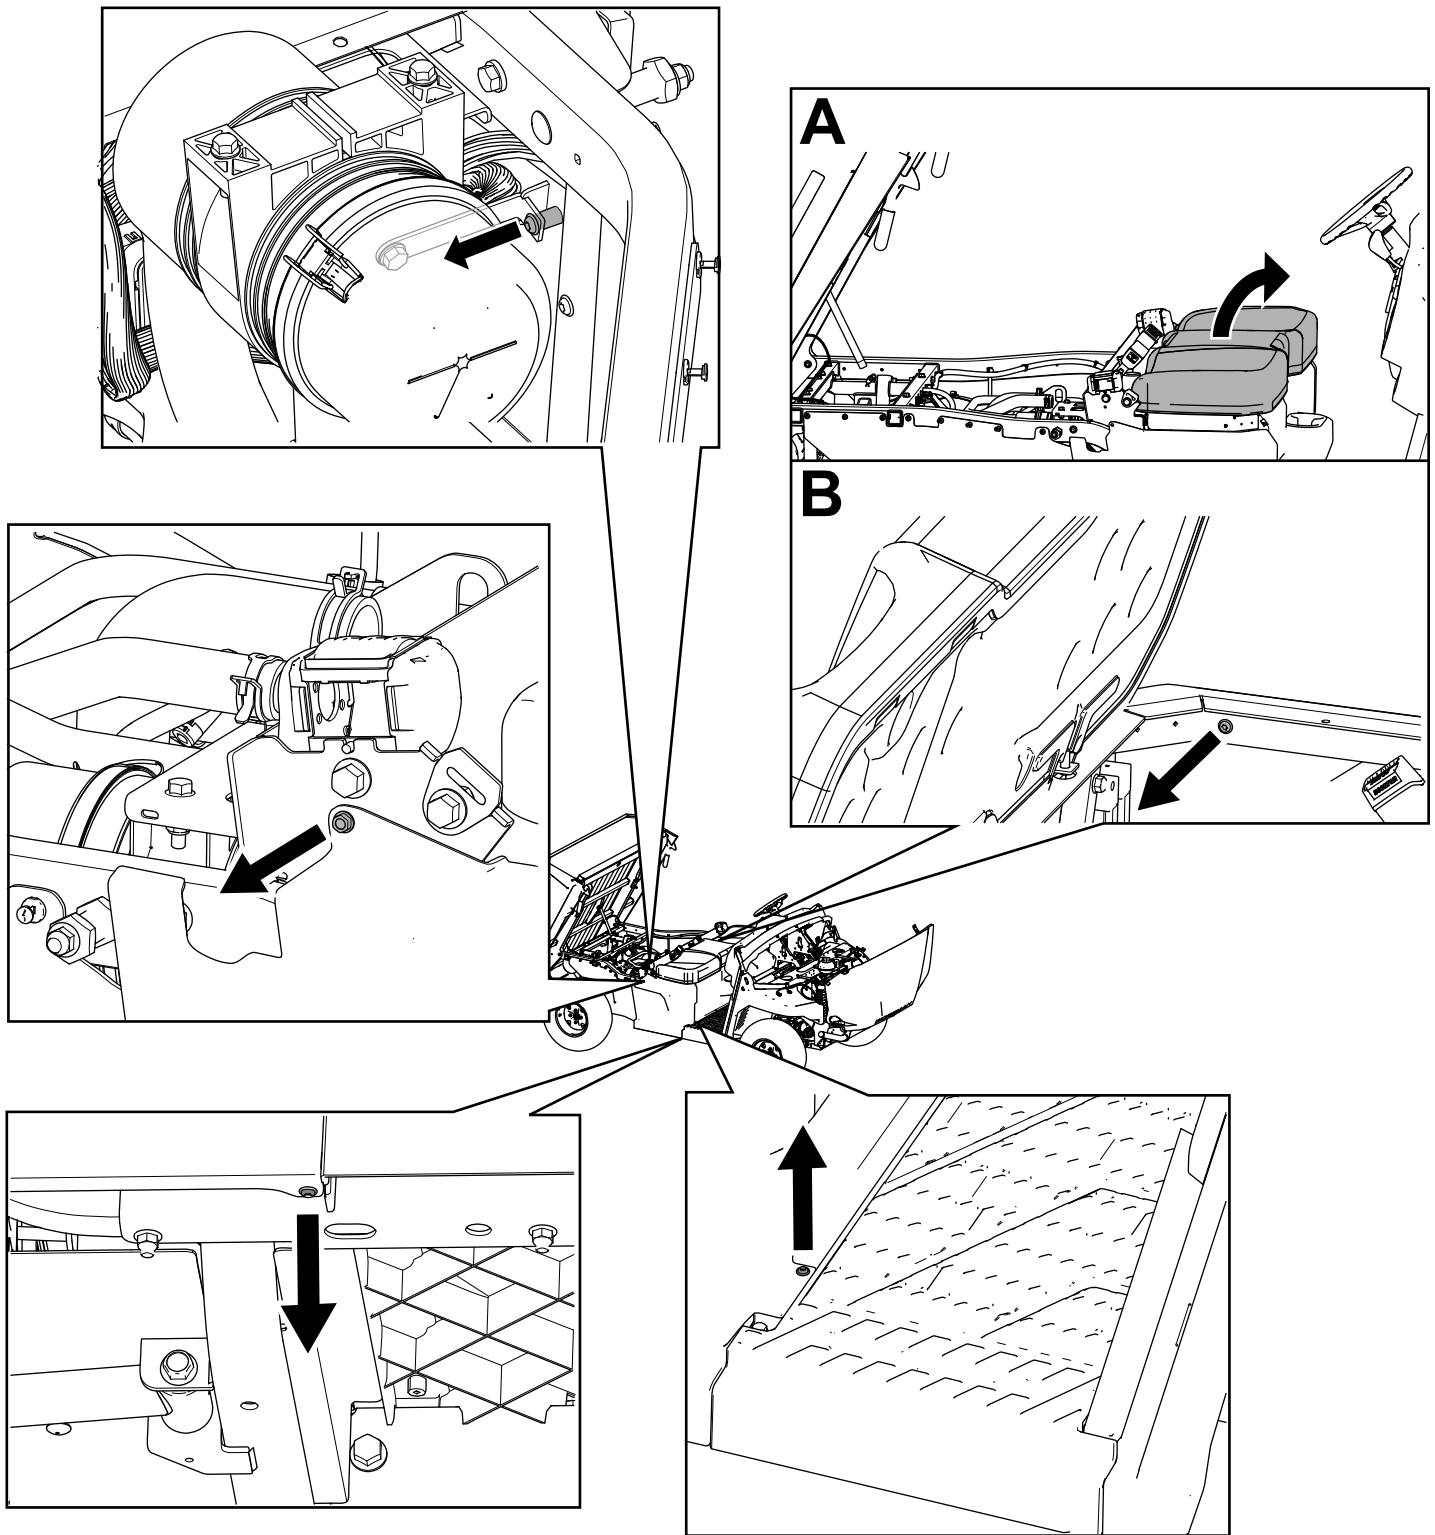

Figure 9
3. Remove the hex-washer head bolts (1/4 x 3/4 inch) and T30 torx-head fasteners from the right and left seat-base panels (Figure 9).